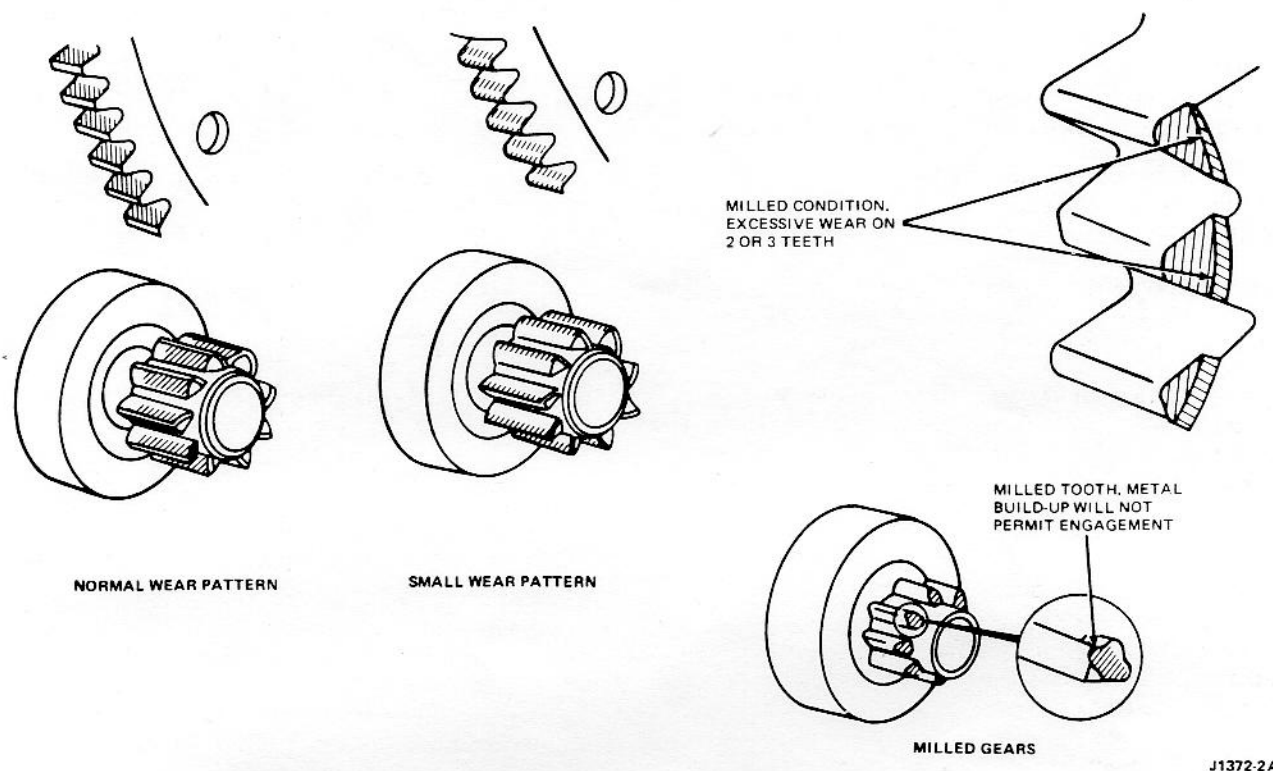

Fig. 12 - Pinion and Ring Gear Rear Patterns
8. Examine the wear pattern on the starter drive teeth. The pinion teeth must penetrate to a depth greater than 1/2 the ring gear tooth depth (Fig. 12) to eliminate premature ring gear and starter drive failure.
9. Replace starter drives and ring gears with milled, pitted or broken teeth of evidence or inadequate engagement (Fig. 12).